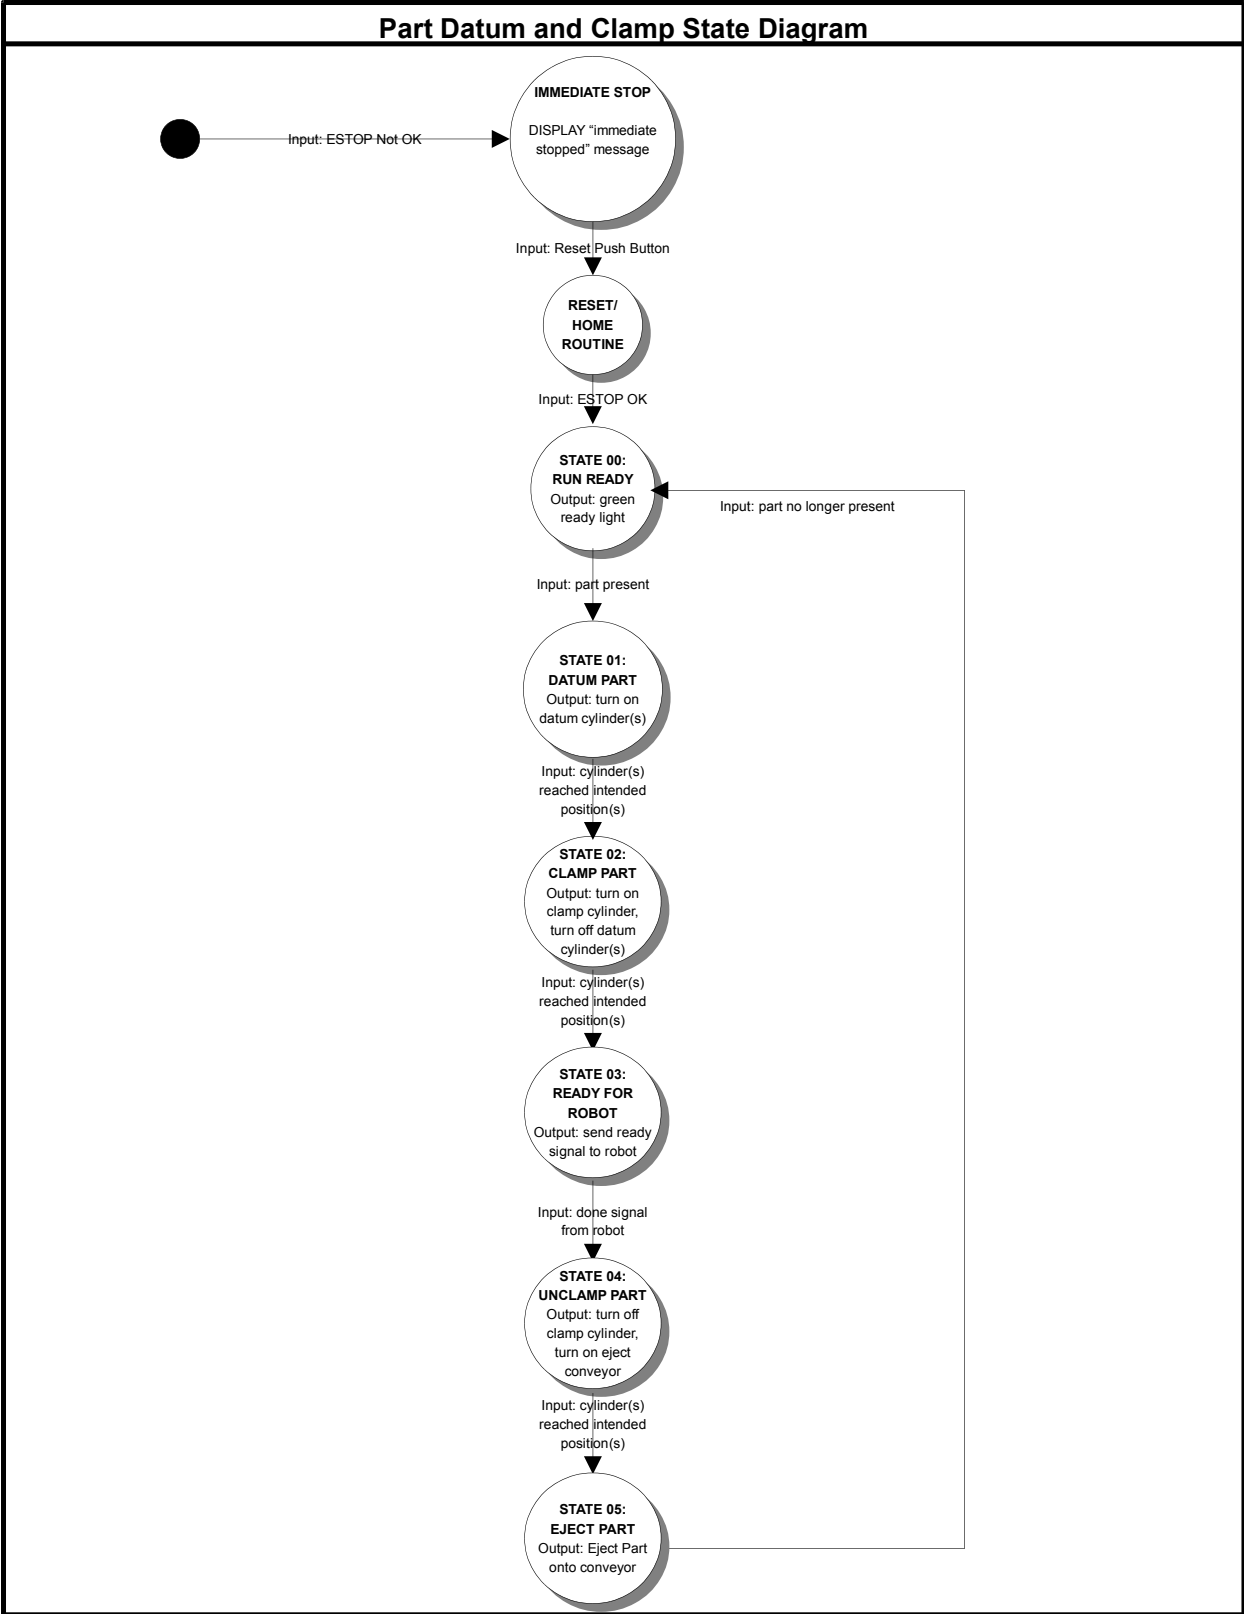

Figure 1 - Moore State Diagram, Graphically Represented.
Step 2 – create a diagram: The state diagram is a simple way yet powerful way to document and define the process. It is helpful to list the inputs that will transition from each state and the outputs that each state will execute. See Figure 1 below.